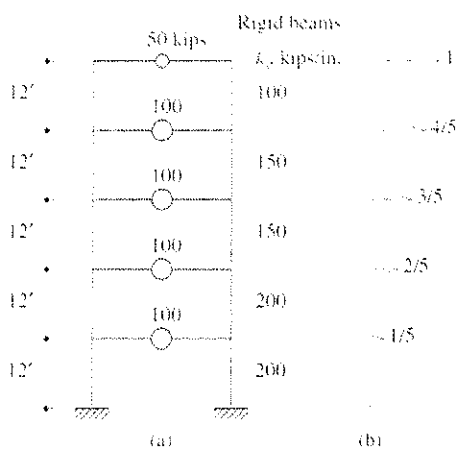

Fig. 2-1
2. A five-story frame with rigid beams shown in Figure. 2-1 is subjected to ground acceleration $\ddot{u}_g(t)$; k_j are story stiffnesses.